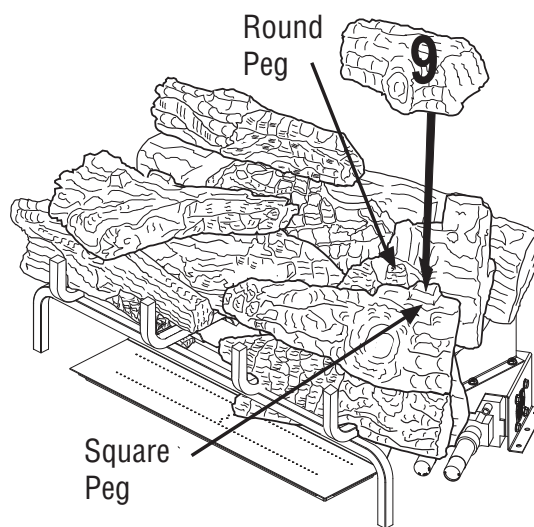

Figure 29 - Installing Log # 9
- Place the top right log (#9) on top of the right rear chunk log (#7) and front right mid log (#8) as shown in **Figure 29**. Match the round peg on the top of the right rear chunk log (#7) with the round hole on the bottom of the top right log (#9) and square peg on the top of the front right mid log (#8) with the square hole on the bottom of the top right log (#9).